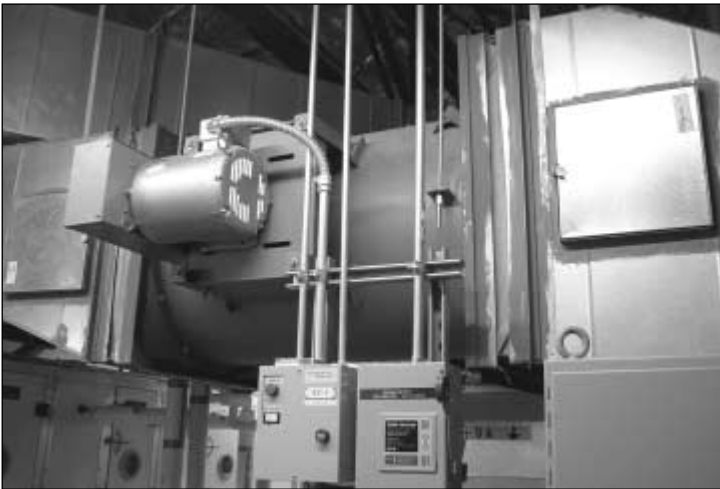

FIGURE 15.3 Return fan showing upstream and downstream duct access doors.
- A *return fan* is located in the return duct downstream from the zones. It is used to maintain a slightly negative pressure in the return duct. Since the return fan does not do any conditioning of the air, it is located by itself (Figure 15.3) without any coils.